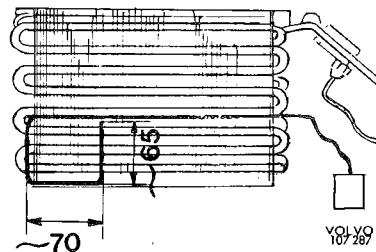

Fig. 8-93. Location of capillary tube in evaporator
6. Insert the new thermostat capillary in the evaporator and bend it according to the measurements in Fig. 8-93. It is important that no sharp bends are made on the capillary.